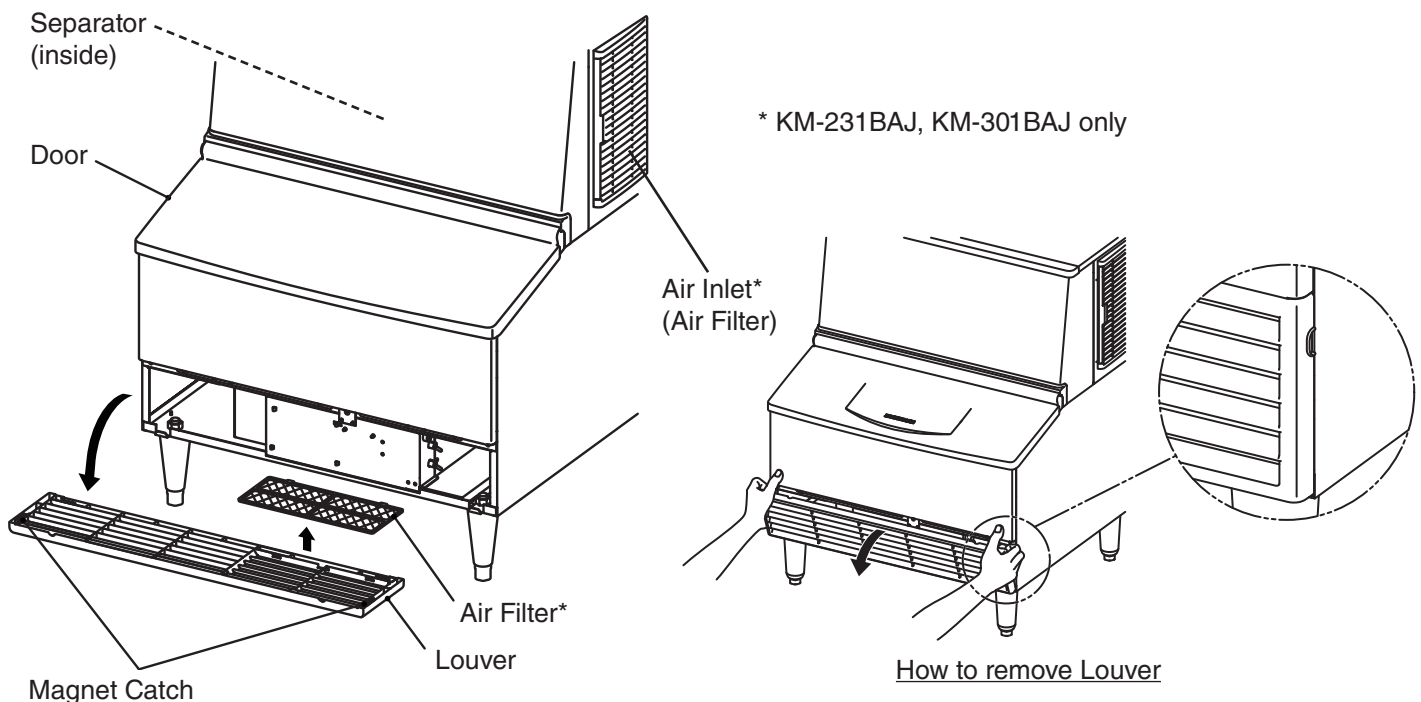

Fig. 1
- Remove the shipping tape holding the door and separator. See Fig. 1.
See Fig. 1